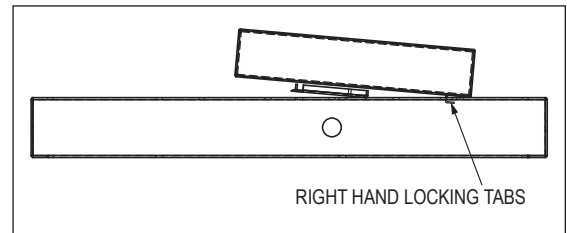

FIGURE 3
9. Refer to Figure 3. Insert the KVM Remote Module into the opening of the rear panel by sliding the right hand locking tabs in all the way to the right.